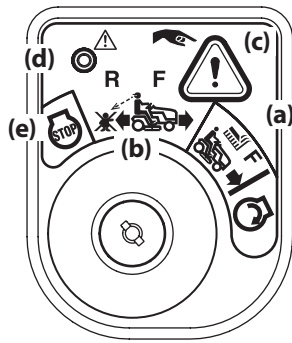

Figure 3-4
2. Turn the key from the NORMAL MOWING  (a) position to the REVERSE CAUTION MODE  (b) position of the ignition module. See Figure 3-4.
3. Press the REVERSE PUSH BUTTON (c) at the top, right corner of the ignition module. The red indicator light (d) at the top, left corner of the ignition module will be ON while activated. See Figure 3-4.
6. The REVERSE CAUTION MODE (B) will remain activated until: